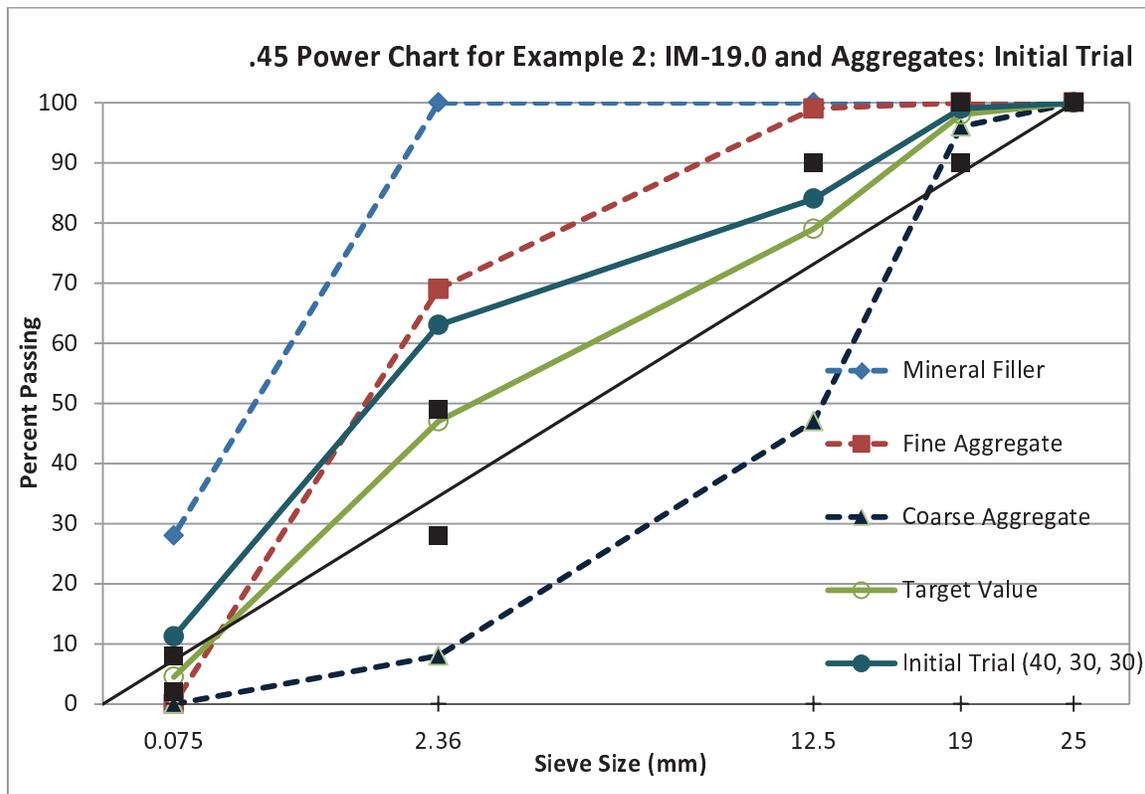

Figure 7-9: Data from Step 5.1 Potted on the .45 Power Chart
5.1 Compare the **Total Blend** with the **Target Value**, as shown below. Figure 7-9 present the results.